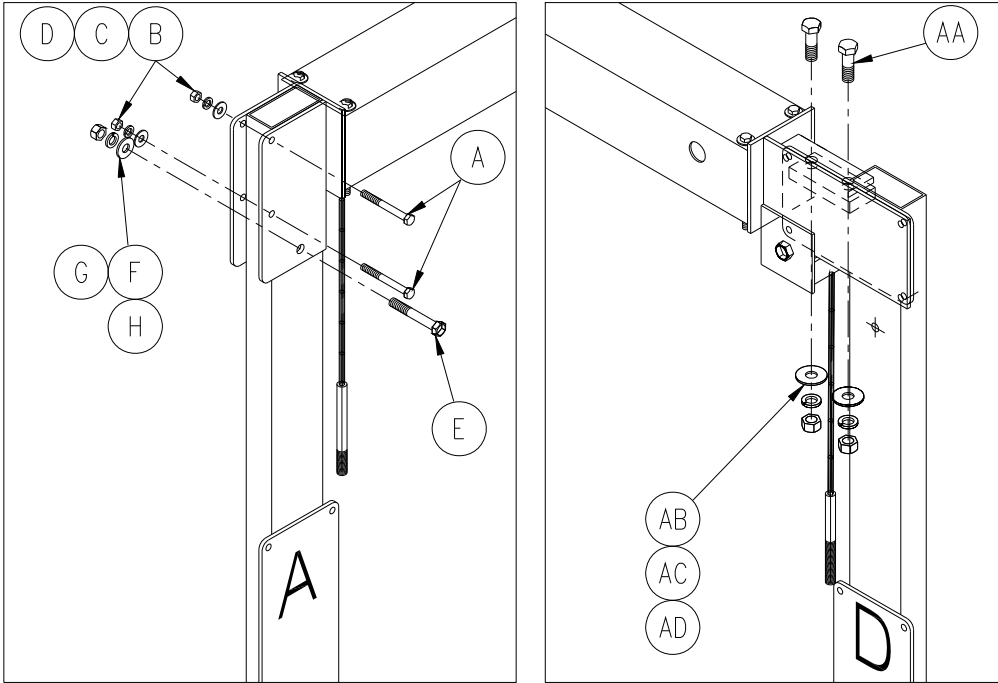

Figure 3-9
2. Refer to Section 3-9 and Figure 3-9. Install hydraulic cylinder assembly to columns A and column D. Use hardware shown.
1. Refer to Figure 3-9. Install hydraulic cylinder assembly to vertical leg “A” and “D”. Use fasteners detail A thru H and install fasteners detail AA, AB, AC & AD.